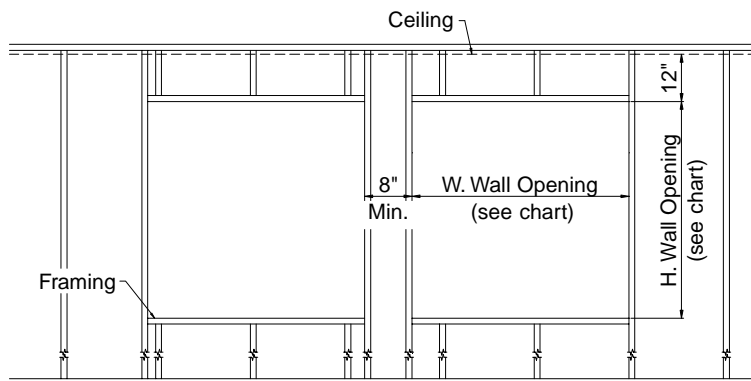

Figure 1
- 1) Construct the framed opening to correct size according to the above chart and your fan size. **See Figure 1.**